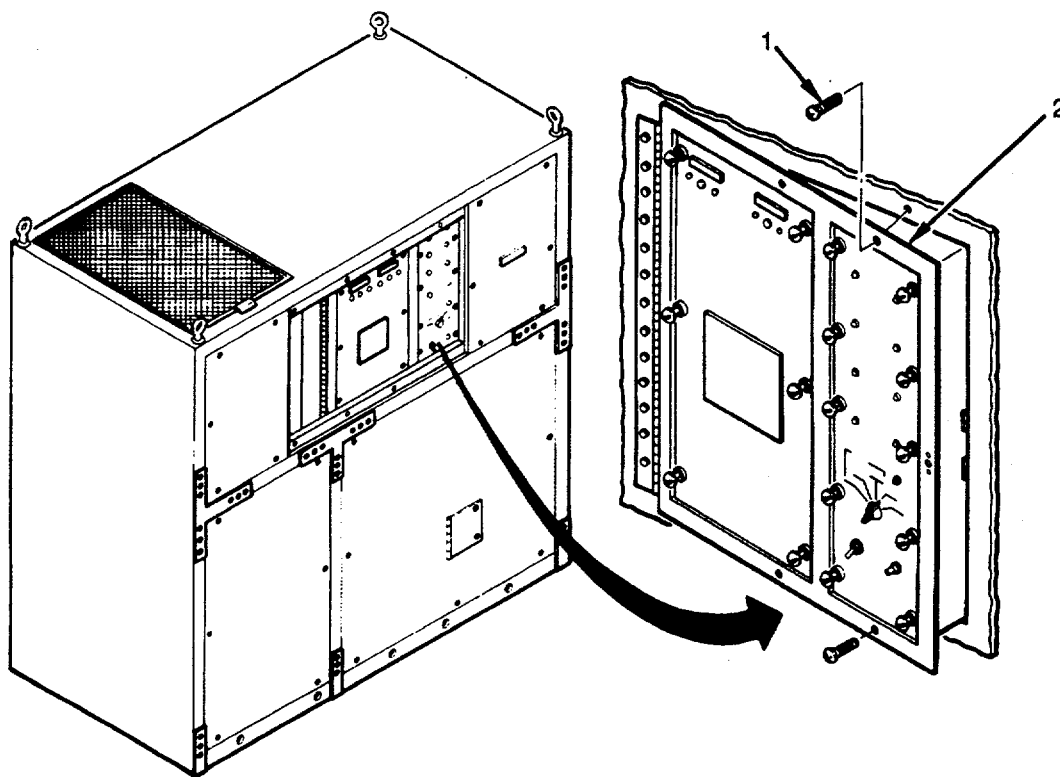

Figure 4-48. Control Box and Components
6. Remove two screws (1) (see Figure 4-48).
7. Swing open control box (2).